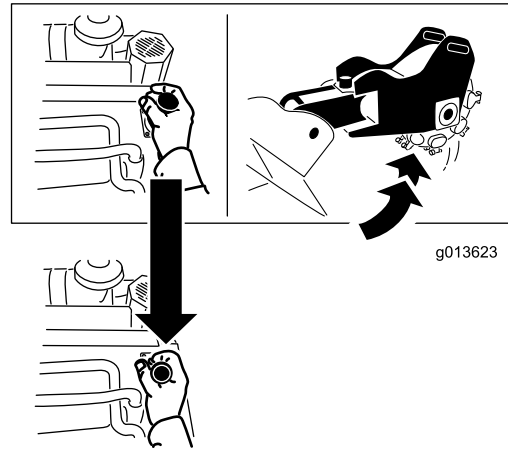

Figure 12
- To raise the grinder, pull the lever rearward (Figure 12).